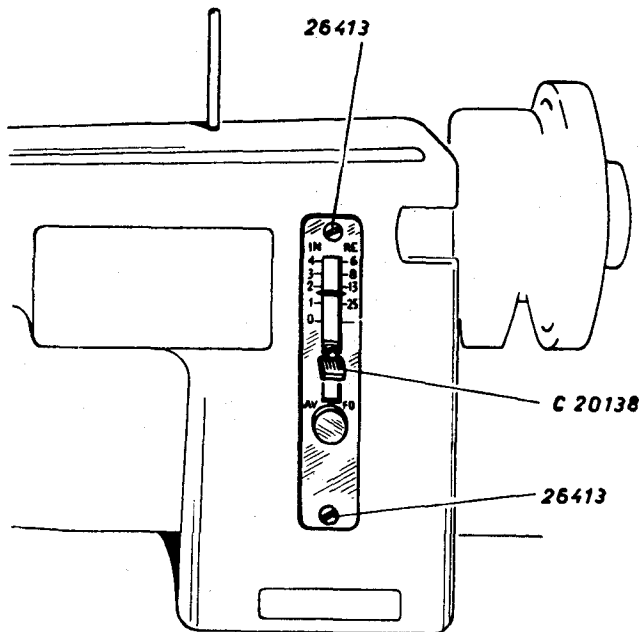

Fig. 53
The length of stitch is adjusted by means of hand lever No. C 20138 (see Fig. 53) which protrudes from a slot in the upright portion of the machine arm.
c. Loosen and remove the set screws No. 26413 (Fig. 53), which hold the stitch regulating plate No. D 21075 to the machine arm. Then turn this plate 90 degrees, and remove it by slipping it over the stitch regulating lever.